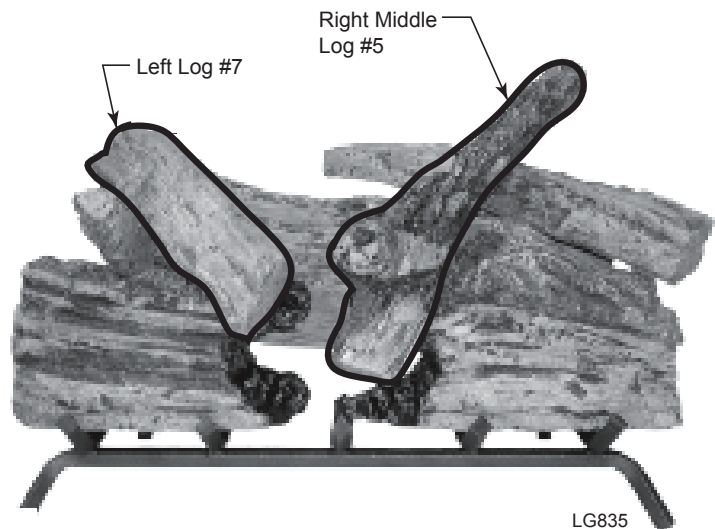

**Figure 85 -
7. Place front of right middle log #5 on top right of log #1b. Rest back end of log #5 on top right of log #4. *Figure 85*